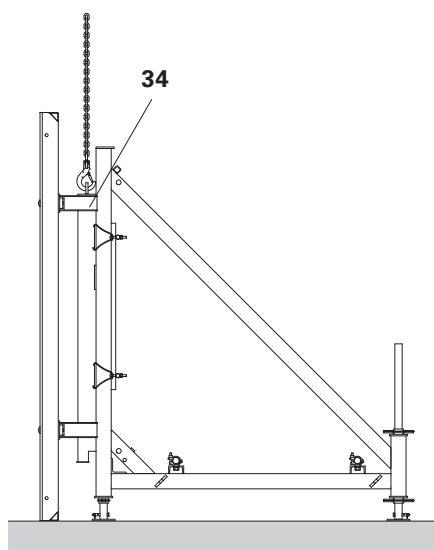

Fig. C2.03
Always fasten to the Connector SB-1, 2 (34). (Fig. C2.03)